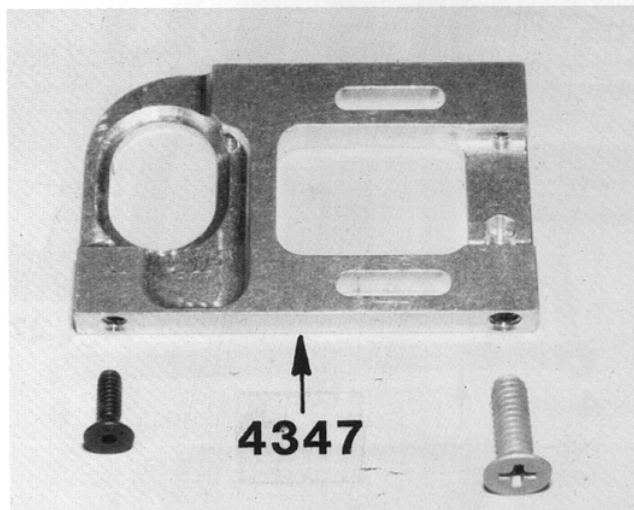

Fig. 21
□ **Figs. 21 & 22**—Install the right hand #4347 aluminum bulkhead onto the lower brace as shown. If you have the fiberglass kit, install the right hand #4346 plastic bulkhead with the three aluminum screws.